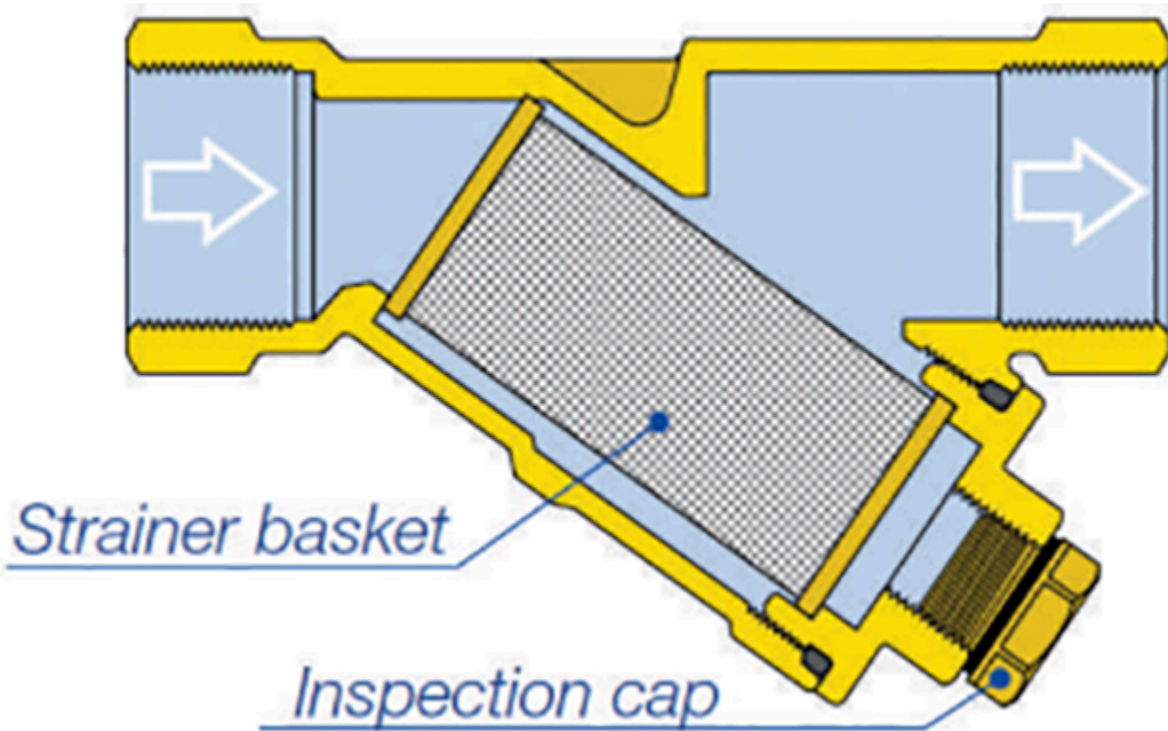

Figure 32 Y-strainer (top: Skilled Trades BC, 2021; bottom: Caleffi, idronicsTM, 2014). Caleffi S.p.A. All rights reserved. Used with permission.
This minimizes the chance of flushing debris in the piping through these components. After the initial debris flushing, a chemical cleaning solution can be added to systems by use of a flush pump cart connected to the purge valves (Figure 32).
- **Figure 32** Y-strainer [Figure 3-10] is by Caleffi Hydronic Solutions (2014, p. 19) in *idronics*TM and is used with permission.